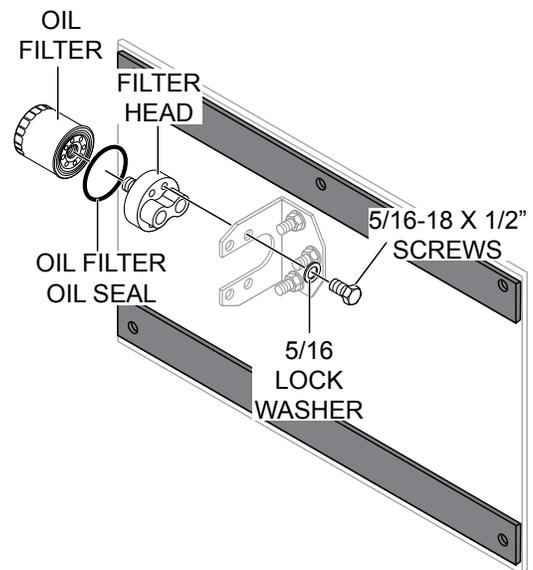

Figure 6. Mounting Oil Filter and Filter Head
- Apply a thin, clean film of oil on the oil filter oil seal to prevent leaks and screw the oil filter into the filter head (see Figure 6).
- Using a 10mm socket, secure the filter head to the mounting bracket (Figure 6) using two HHC 5/16-18 x 1/2" screws and 5/16 lock washers.